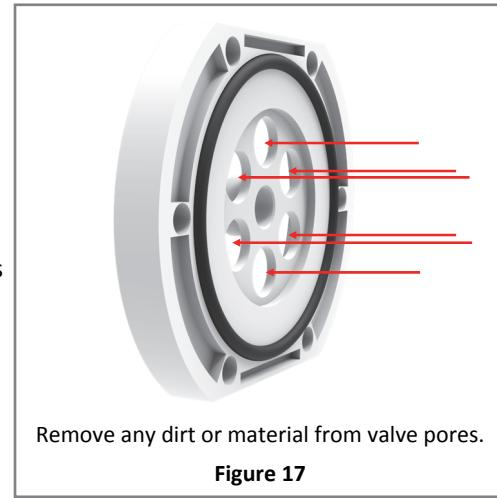

Figure 17
5. Inspect the rubber umbrella valve for any tears. Inspect the valve pores and remove any dirt or material that may have become lodged in the pores. Inspect O-rings for any sign of wear and replace as necessary. Ensure that they are correctly installed in the valve stop grooves. (*Figure 17*)